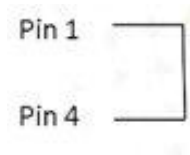

Figure 5-3
- Pin 1 and Pin 4. 5V needs to be supplied to pin 4 for the laser to operate. The PSU has its own 5 V source (pin 1) which must be shorted to pin 4 to allow full Power Mode operation [Fig 5-3]. If this connection is broken the laser will be deactivated and laser emission will cease.